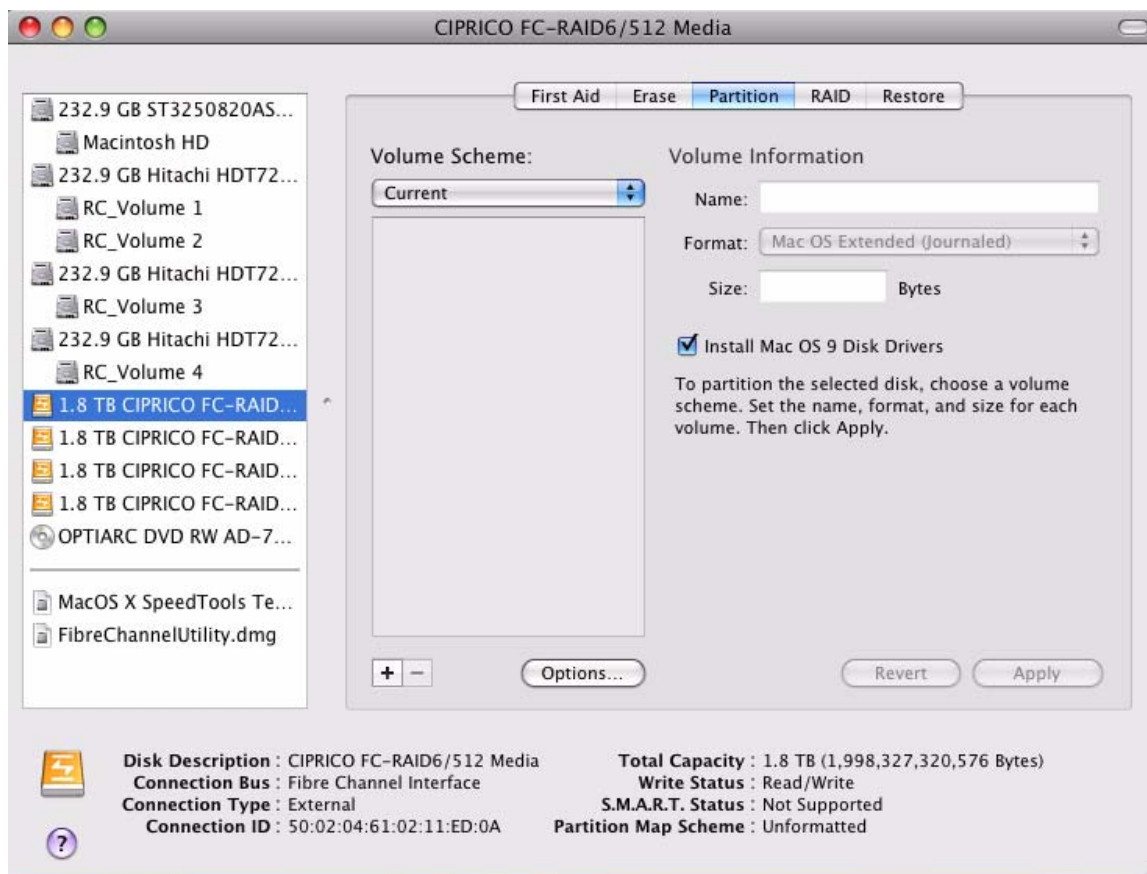

FIGURE 6-4. The Apple Disk Utility Screen, After the Partition Tab is Clicked.
1. Click the “Partition” tab at the upper right of the *Apple Disk Utility* screen. See Figure 6-4.